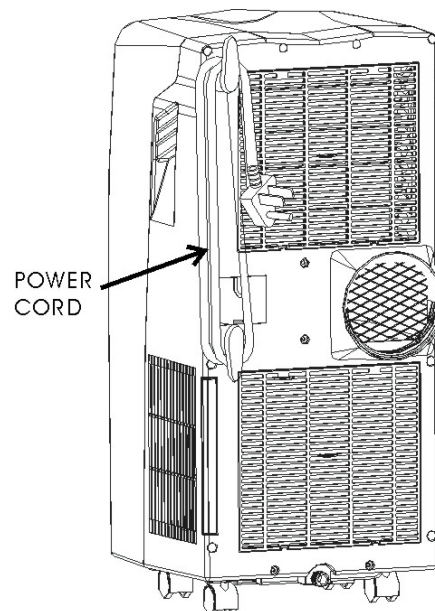

FIG.21
- Unplug and wrap the power cord around the cord wrap as shown (fig. 21).